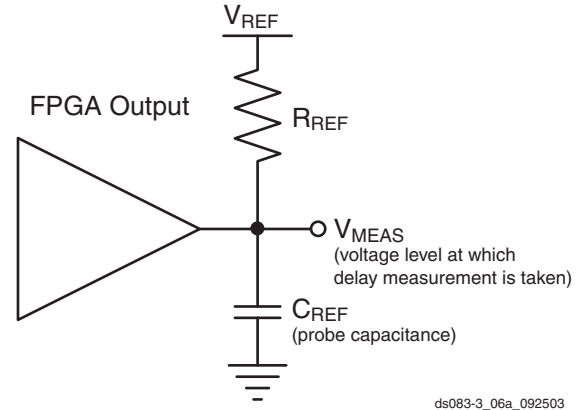

Figure 6: Generalized Test Setup
5. Note that this is an input voltage reference that bears no relation to the  $V_{REF} / V_{MEAS}$  parameters found in IBIS models and/or noted in Figure 6.
Output delays are measured using a Tektronix P6245 TDS500/600 probe (< 1 pF) across approximately 4" of FR4 microstrip trace. Standard termination was used for all testing. (See Virtex-II Pro Platform FPGA User Guide for details.) The propagation delay of the 4" trace is characterized separately and subtracted from the final measurement, and is therefore not included in the generalized test setup shown in Figure 6.